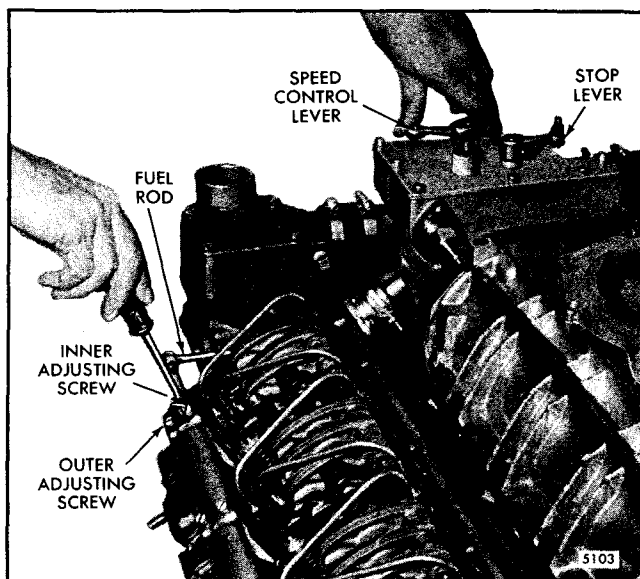

Fig. 2 - Positioning No. 1 Injector Rack Control Lever
6. Move the governor speed control lever to the maximum speed position; hold it in that position with a light finger pressure. Turn the inner adjusting screw of the No. 1L injector rack control lever down until a slight movement in the control lever is observed or a step-up in effort to turn the screw drive is noted (Fig. 2). This will place the No. 1L injector rack in the full-fuel position. Turn down the outer adjusting screw until it bottoms lightly on the injector control tube. Then alternately tighten both the inner and outer adjusting screws.